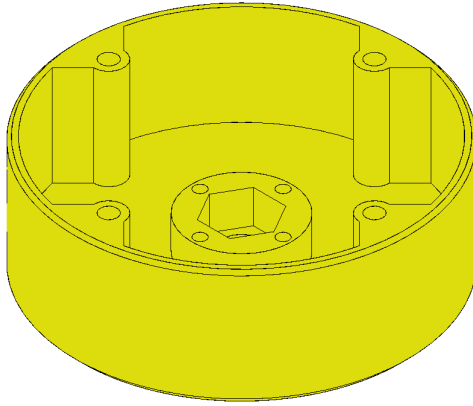

Figure 2: *Component 1* of a ground support element.
2. Focus on the *component 1* part which is shown on figure 2. *Component 1* has four holes that are intended to be used for M3 ( $\times 4$ ) and M2 ( $\times 4$ ) brass inserts. The holes for the M2 inserts are located in the inside of the part, at its bottom. The holes for the M3 inserts are located in the top of the part. Heat the brass inserts using either a heat gun or a soldering iron and place them into its corresponding holes. Allow the inserts to cool down before proceeding with the assembly.